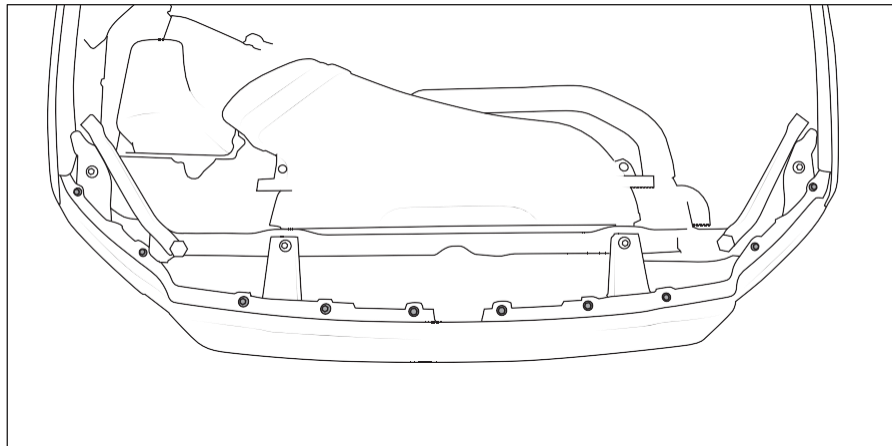

Figure 2-
2. Remove the upper grille trim by removing the 10 bolts (fig. 2).